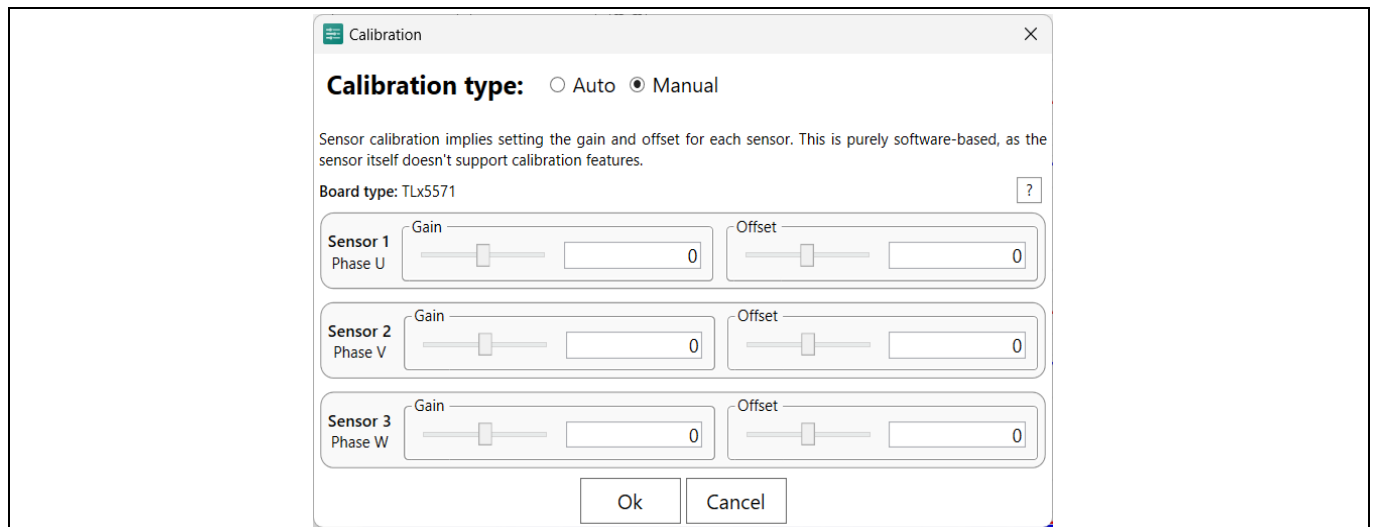

Figure 19 Software manual calibration
2. **Manual calibration:** You can adjust the gain and offset manually. The calibration window (Figure 19) can be moved to the side while watching the charts in the main window. With the current source turned off, set the offset to the value shown next to the charts, so the new value will be close to zero. Then, turn on the current source and adjust the gain until the value shown next to the charts is correct.